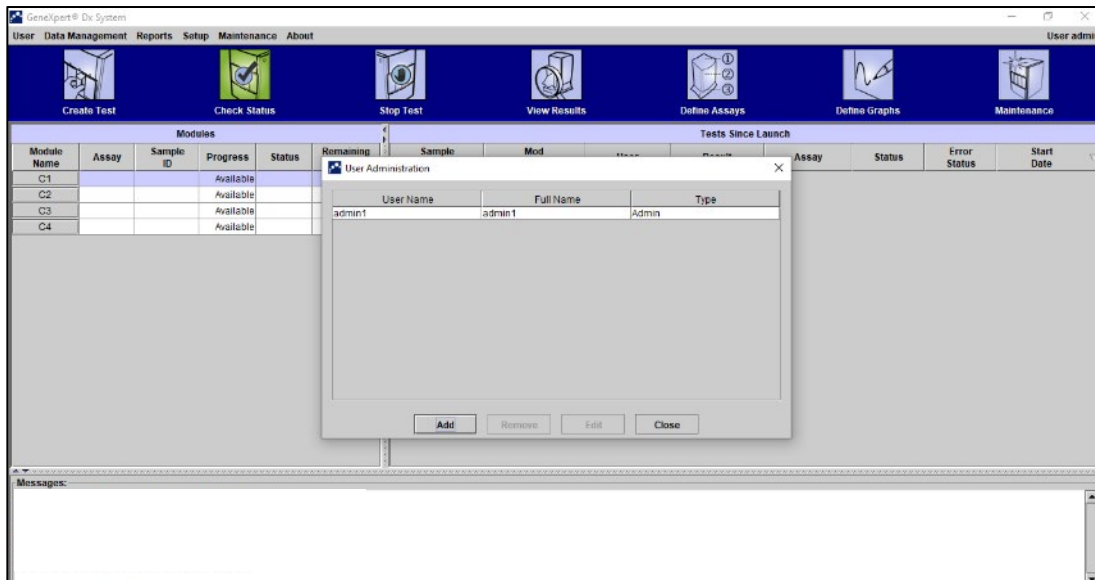

Figure 9. User Administration prompt
- D. In the User Administration prompt, select *Add* (Figure 9.).